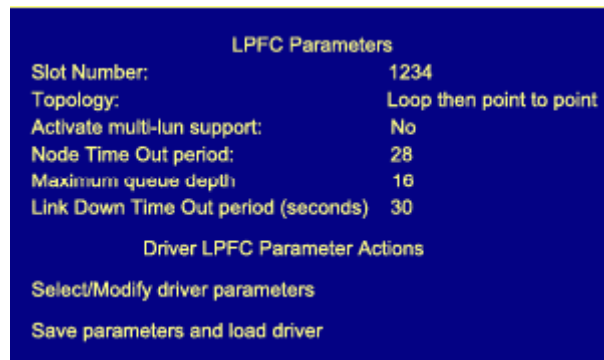

Figure 6: LPFC Parameters
7. Press **<Enter>**. A screen similar to Figure 6 appears: